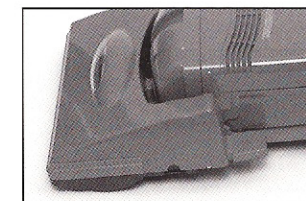

Fig. 9
3. Low Position: With the handle in the middle position, press the foot pedal release again to allow the vacuum to achieve the low position. This position is used for cleaning under furniture [Fig. 9].